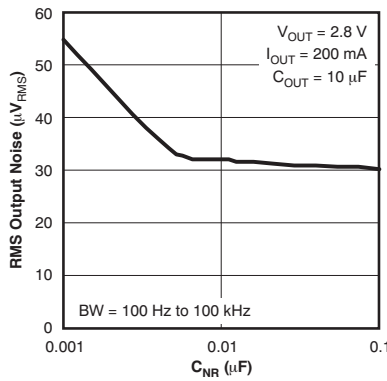

Figure 6.
- Corrected units in y-axis of Figure 6 5